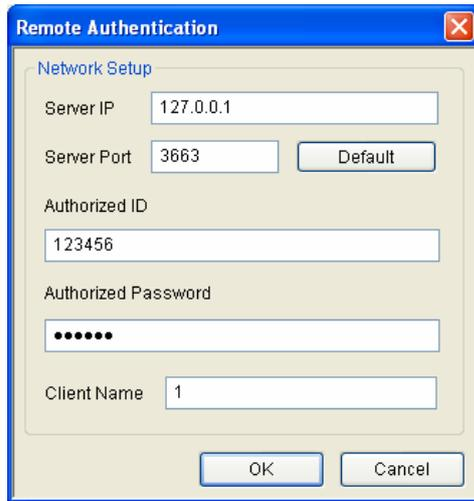

Figure 10-34
1. On the Host List, right-click **Host List by ID** and select **Remote Authentication Setup**. A dialog box appears. See Figure 10-34.